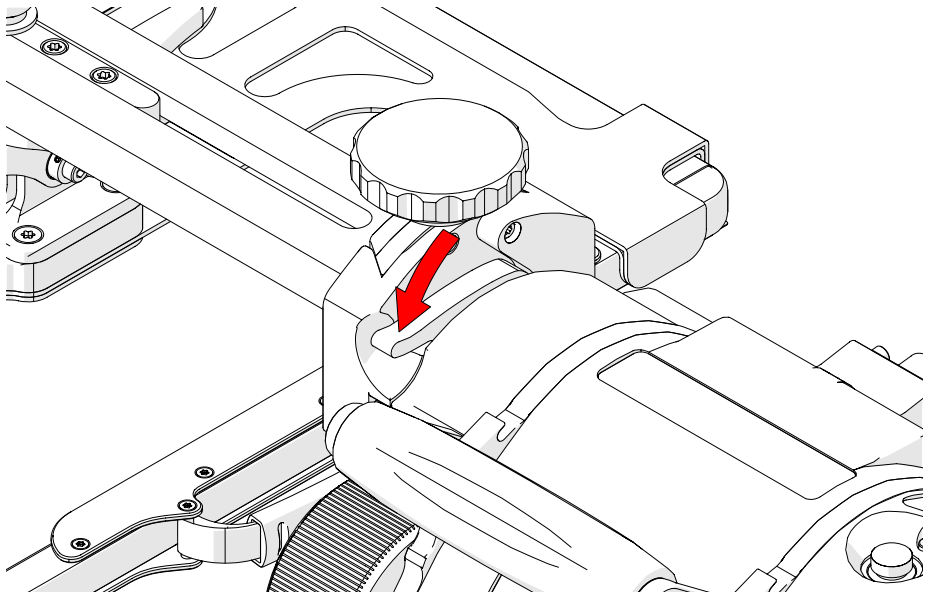

Fig. 52 - Press lever down
4. Press the lever down to lock the detector bracket in place (Fig. 52).